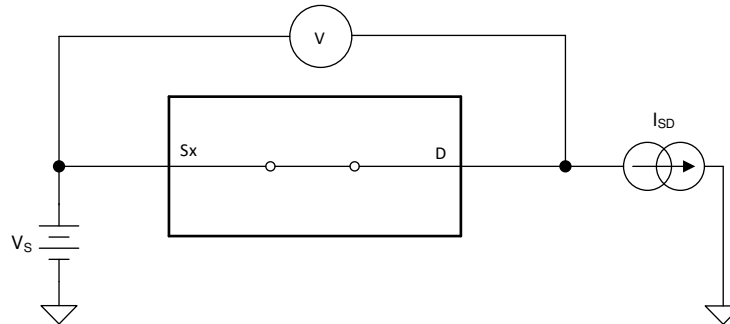

图 18. On-Resistance Measurement Setup
The on-resistance of a device is the ohmic resistance between the source (Sx) and drain (D) pins of the device. The on-resistance varies with input voltage and supply voltage. The symbol R_{ON} is used to denote on-resistance. The measurement setup used to measure R_{ON} is shown in 图 18. Voltage (V) and current (I_{SD}) are measured using this setup, and R_{ON} is computed with $R_{ON} = V / I_{SD}$: